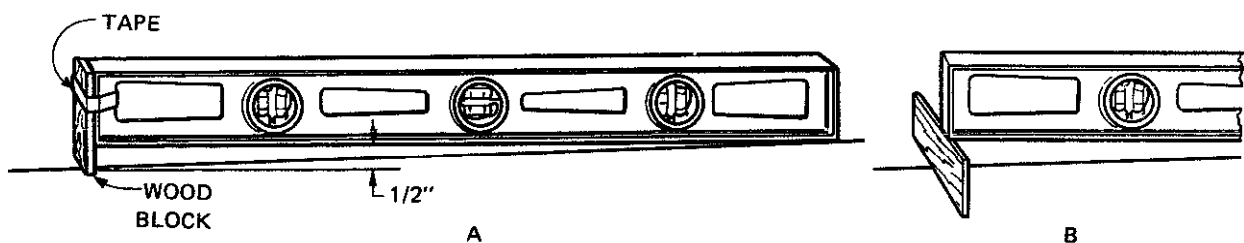

Fig. 5-8 Testing pitch with a spirit level
- At one end of the level, tape a block of wood so that it projects  $1/2$  inch beyond the bottom edge as shown in figure 5-8. If only an approximate check is necessary, the block can be placed under the extreme end of the level. It is then held in place by hand until the reading is taken. See B, figure 5-8.